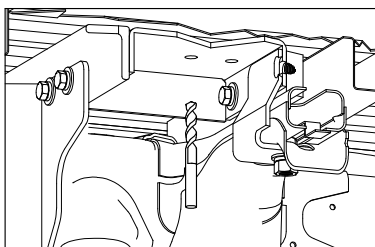

Figure H1: Cutaway view from under the bed.
1. **Drill the holes.** To install the safety chain brackets, it is necessary to drill four 1/2" holes through the truck bed floor. Drill the holes so that they match up with the two sets of holes on each side of the center, see Figure H1. This may be done by drilling the 1/2" holes from the bottom using the center as a guide, or by drilling a smaller pilot hole from the bottom and drilling the 1/2" holes from the top side of the bed.